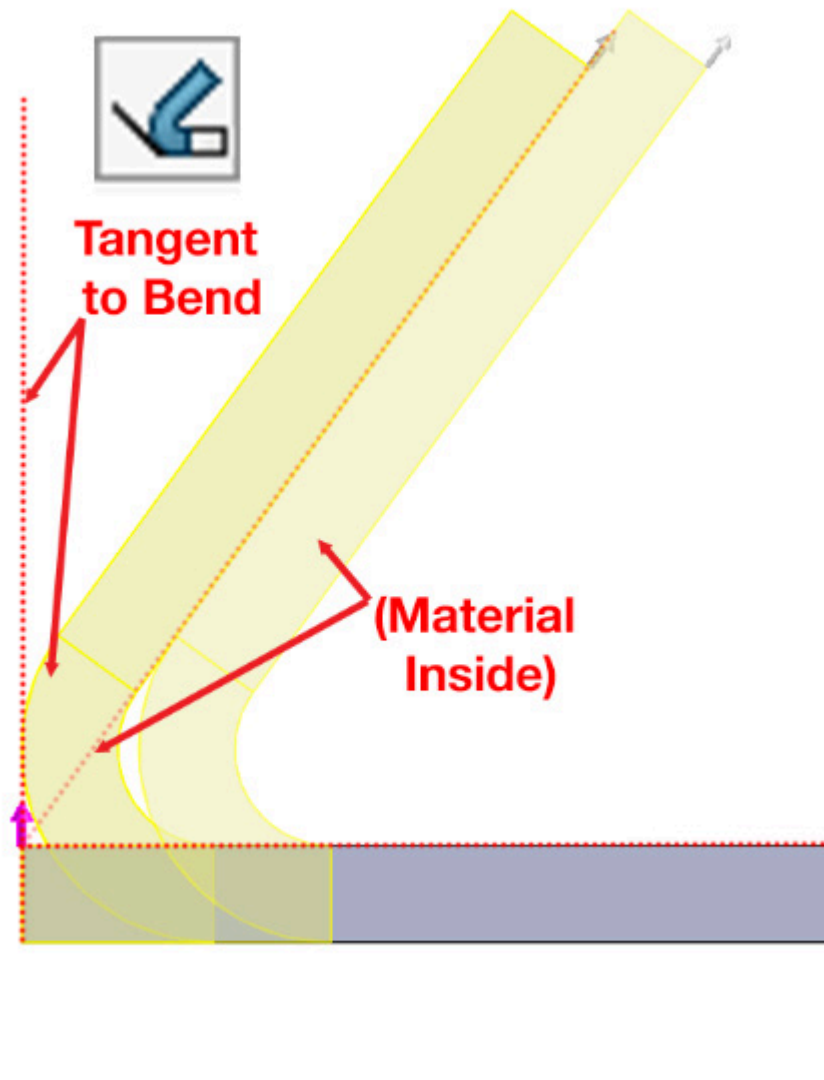

Figure 2.12: The Tangent to Bend option (shown alongside the Material Inside option)
- **Tangent to Bend:** This option can also only be used with bend angles of over 90°, and it keeps the actual bend face at a tangent to the side face of the fixed flange (*Figure 2.12*). This is subtly different from the **Material Inside** option, which uses a virtual sharp with the outside of the Edge Flange and the top of the fixed flange.